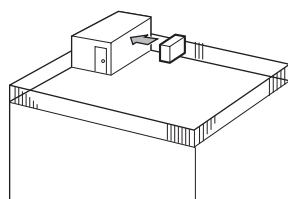

Fig. 4-21
- Face the air outlet towards the nearest available wall about 35 cm away from the wall. (Fig. 4-21)